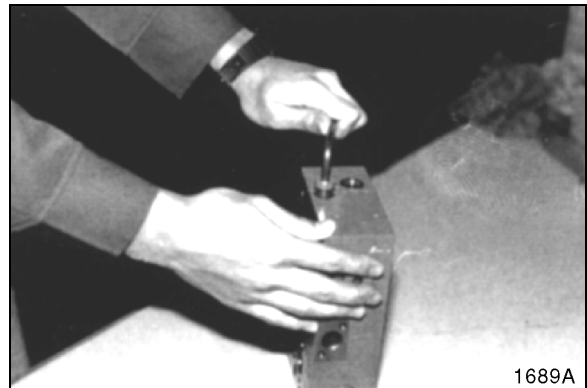

Figure 95
4. Install plug and torque to 2.6 kg m (18.8 ft lb). See Figure 95.